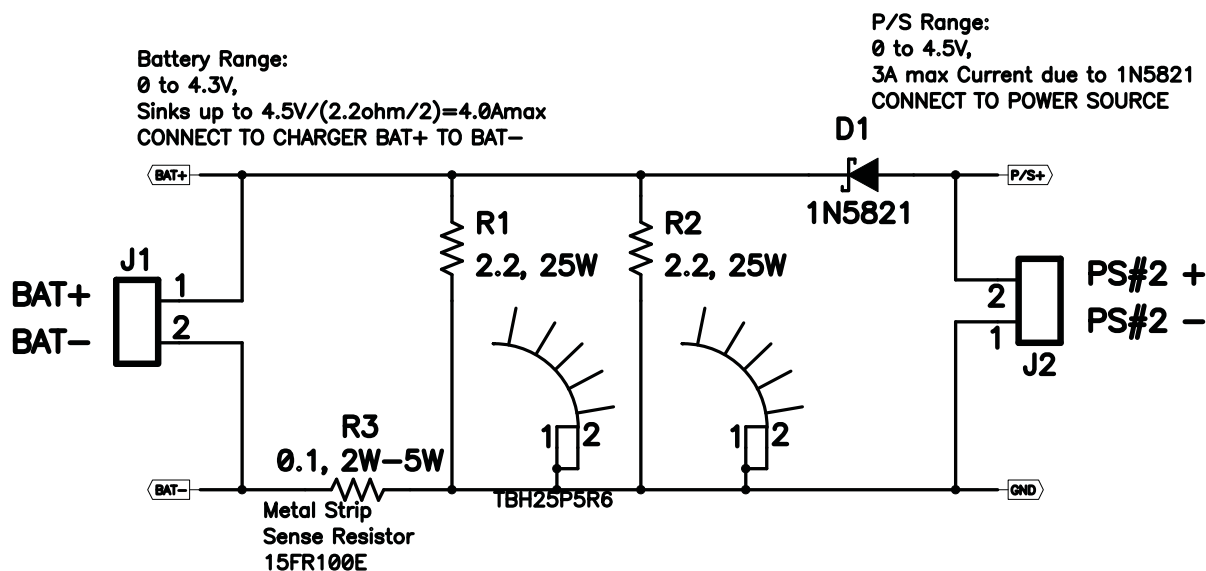

Figure 7. BAT\_Load (PR1010) Schematic
2. If not using a battery as the load, then power supply #2 (PS #2) capable of supplying up to 5 V at 5 A is required to power the circuit shown in Figure 7.
Testing with an actual battery is the best way to verify operation in the system. If a battery is not available, then a circuit similar to the one shown in Figure 7 can simulate a battery when connected to a power supply.
- If BAT\_Load as shown in Figure 7 is used, connect Power Supply #2 (PS #2) set to approximately 3.6 V to the input side (PS #2+/-) of BAT\_Load, then turn off PS #2.